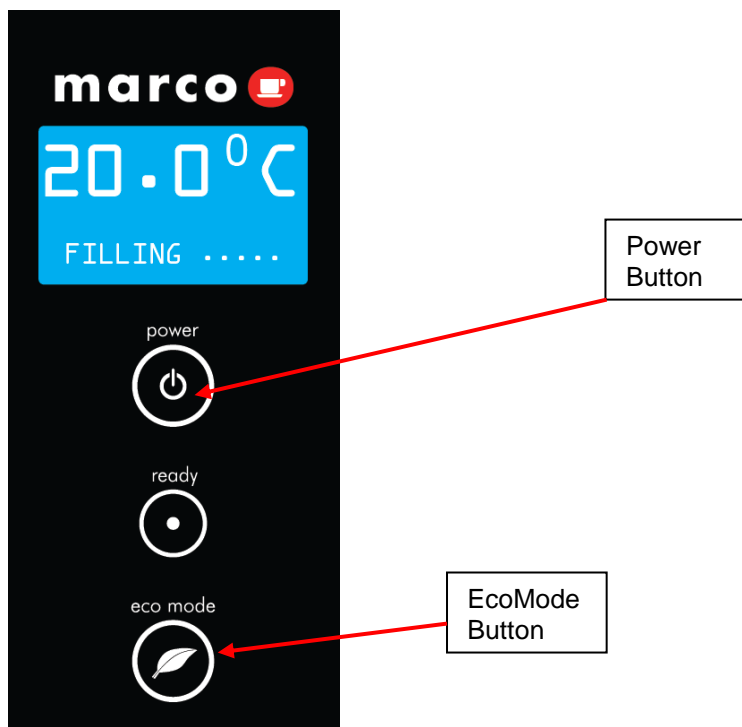

Figure 1: Machine User Interface
- Plug power cord into 13A socket and press power button on the front of the machine marked 'Power'. Refer to Figure 1.